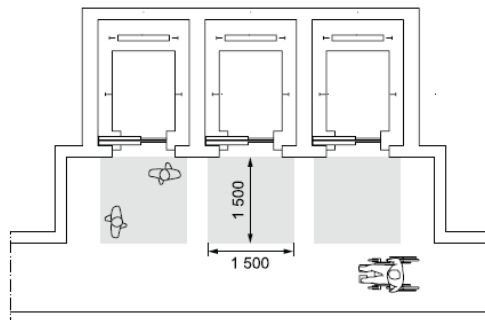

Figure 69: Manoeuvring space in front of a group of lifts
- Manoeuvring Space: The manoeuvring space in front of lift entrances must be at least 1500 mm by 1500 mm, except in exceptional cases, where a reduced space of 1200 mm by 1200 mm may be considered (Figure 69)